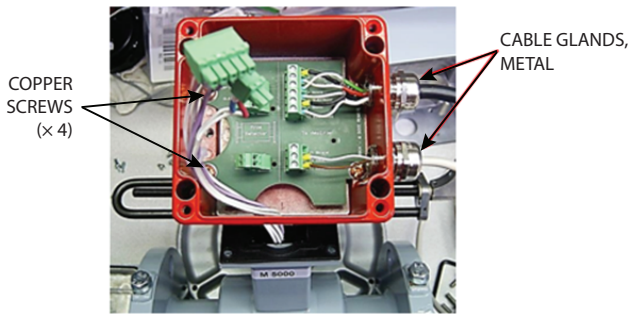

Figure 3: M5000 junction box
- Attach the PCB to the inside of the junction box with four (4) copper screws. See Figure 3.
- Thread two (2) metal cable glands into the junction box. Torque the cable gland nuts to 5.2 Nm. See Figure 3.